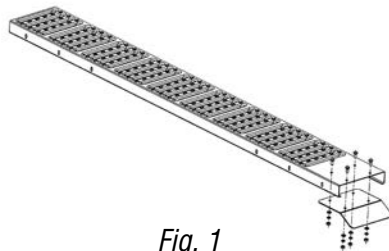

Fig. 1
1. Affix the Ramp Plates (#2) to the Steel Ramps (#1) as shown in Fig. 1. Refer to the Parts Breakdown/Parts List (page 8) for the order in which the hardware (nuts, bolts, washers) should be placed.